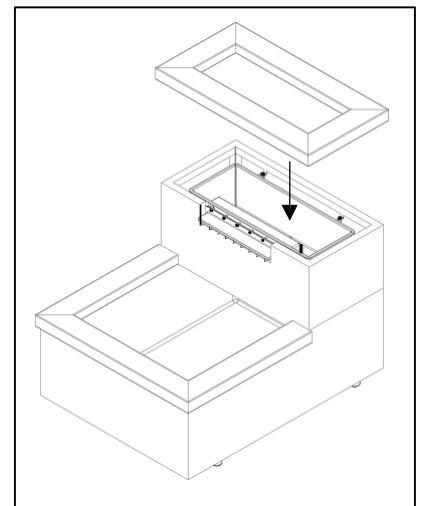

Fig. 12
12. Replace the aluminum trim on upper section. Fig.12